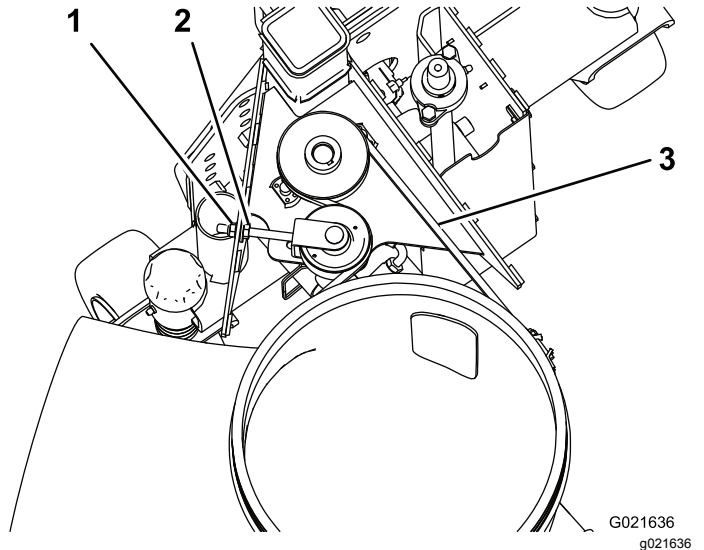

Figure 19
1. Press the belt, at the center of the longest span, with 30 N·m (22 lb) of force (Figure 19).
3. Loosen the hex nut and tighten the flange nut to increase the belt tension (Figure 19).